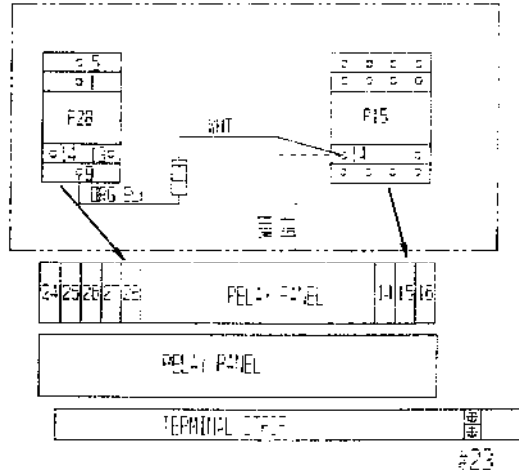

Figure 5
7. Locate R15 (Lower Control Box Assembly) and disconnect black wire from Terminal #14. Leave white wire connected. Insulate black wire and tie it back out of the way. See Figure 5.
9. Locate R28 (Lower Control Box Assembly) and connect orange/black end of Diode Assembly to Terminal #9. Leave all existing wires on R28. See Figure 5.
10. Connect white end of Diode Assembly to Terminal #14 of R15. See Figure 5.